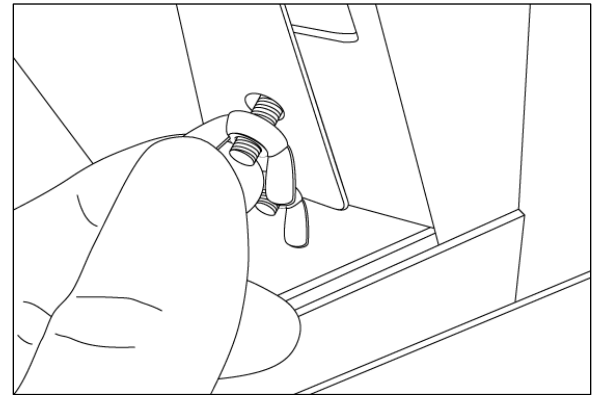

Figure 6-3
4. Loosen the wing nuts on the halogen light bulb support bracket in order to access the halogen light bulb (Figure 6-3).